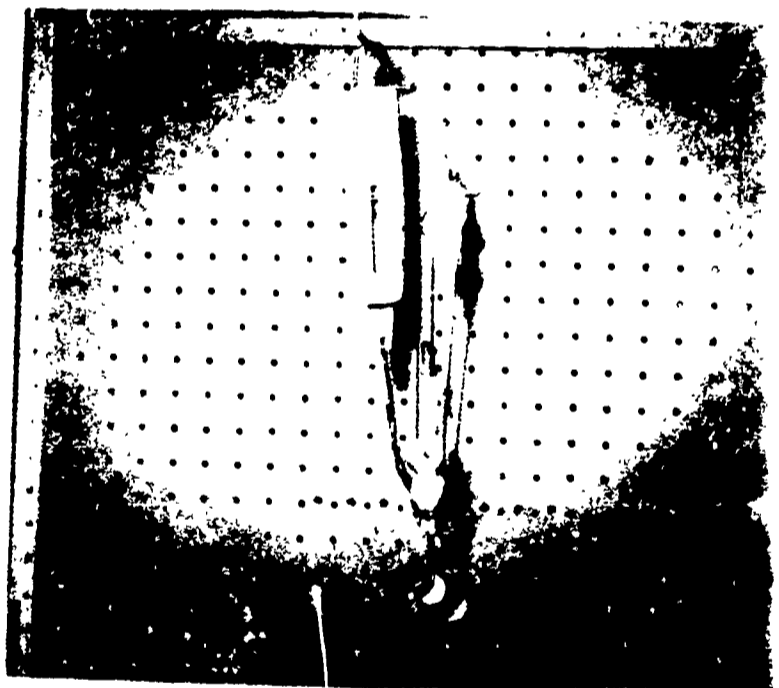

FIGURE 5
Additional experiences (See Figure 5)
60. If you have time, you may set up your equipment as shown in Figure 5.